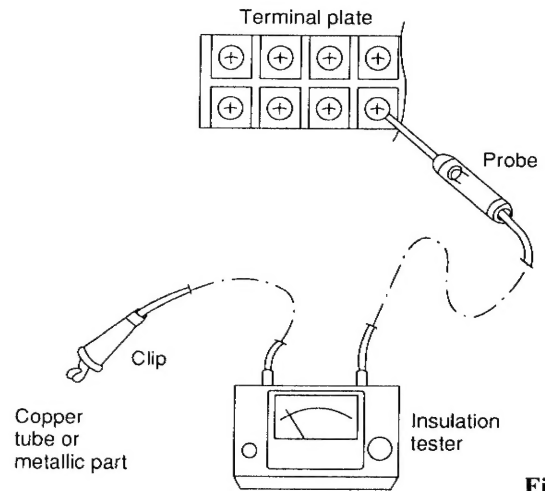

Fig. 2
(2) Indoor Unit
Clamp an aluminum plate fin or copper tube with the lead clip of the insulation resistance tester and measure the resistance by placing a probe on ①, and then ② on the terminal plate. (Fig. 2)
(3) Outdoor Unit
Clamp a metallic part of the unit with the lead clip of the insulation resistance tester and measure the resistance by placing a probe on ⑤, and then ⑥ on the terminal plate. (Fig. 2)